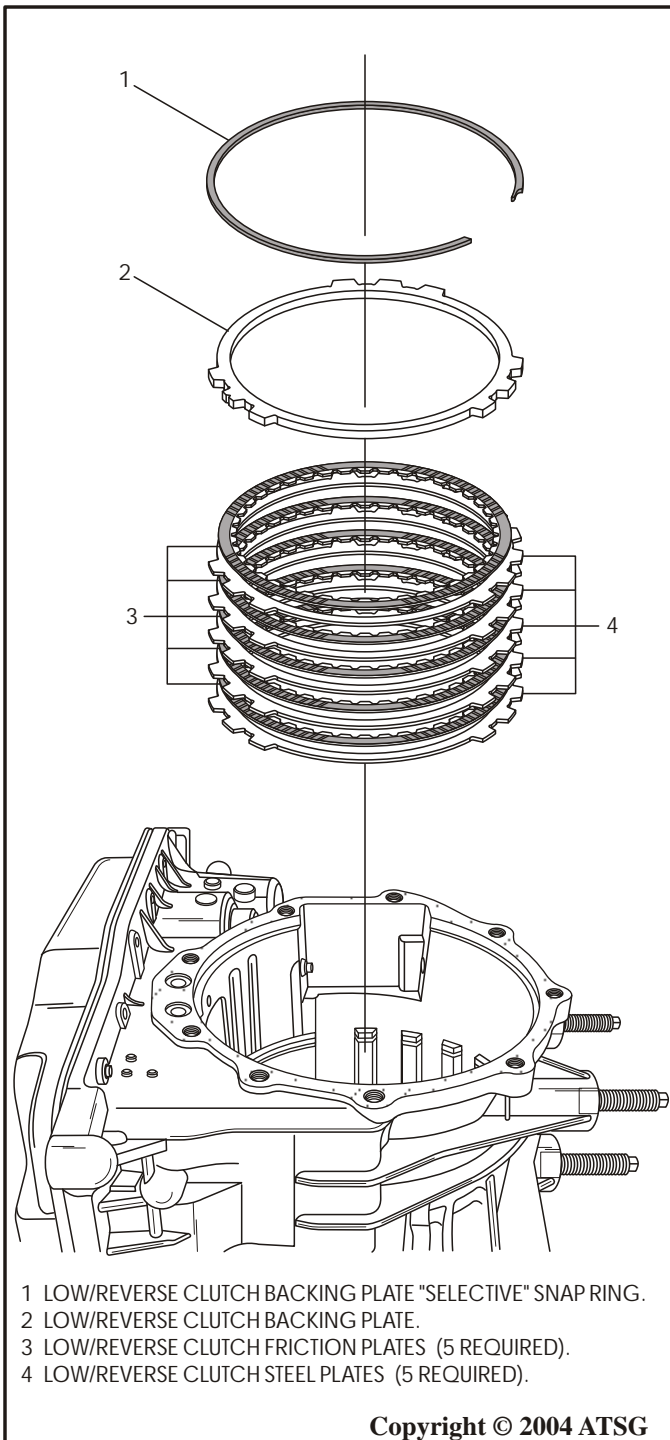

Figure 167
32. Install the low/reverse clutch plates beginning with a steel plate and alternating with frictions until you have installed five of each, as shown in Figure 167.
33. Install the low/reverse clutch backing plate, as shown in Figure 167.
34. Install the selective low/reverse clutch backing plate snap ring, as shown in Figure 167.